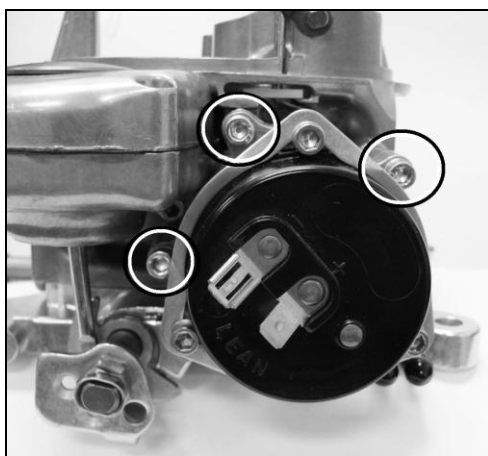

Figure 5
10. The next step is to begin stripping the main body and the choke assembly. Before loosening any screws, note the position of the adjustment index so that the same setting may be achieved when the carburetor is reassembled. Remove the 3 hex head screws holding the choke unit to the carburetor. Rotate the choke out of your way (Fig. 5). On integral hot air chokes, it may be necessary to scrape away the carbon deposits on the plastic cover.